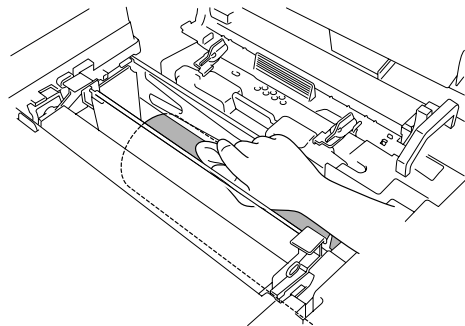

Fig.6-26
- 4) Clean the area where the drum cleaner is mounted. (Fig.6-26)